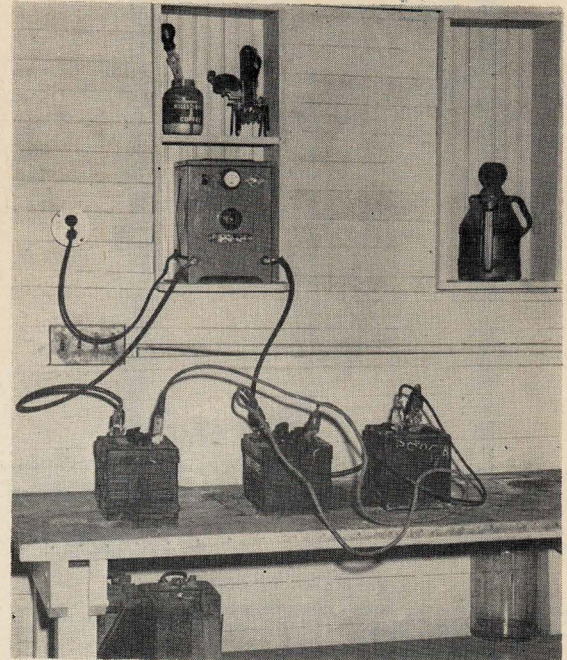

Fig. 15 A Battery Table, Charger and Accessories
4. Battery table—24" high, 26" to 28" wide, covered with an acid-resistant material such as hard rubber or heavy glass. Figure 15 shows a good arrangement.